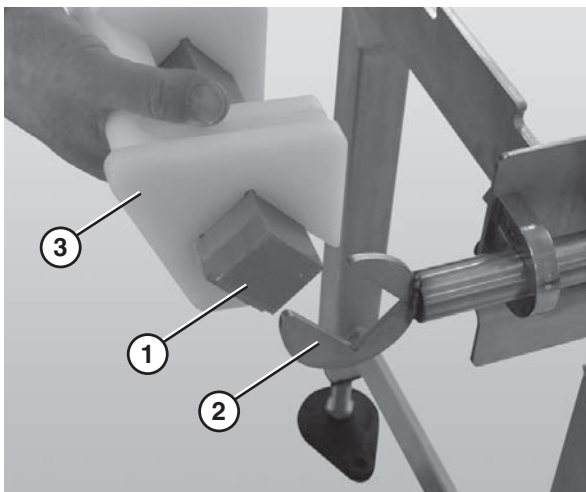

Figure 62
- Slide the nose bar drive or transfer post (**Figure 62, item 1**) out of the nose bar drive weldment or idler hands (**Figure 62, item 2**).
- Remove the nose bar tracking pucks (**Figure 62, item 3**), if applicable.